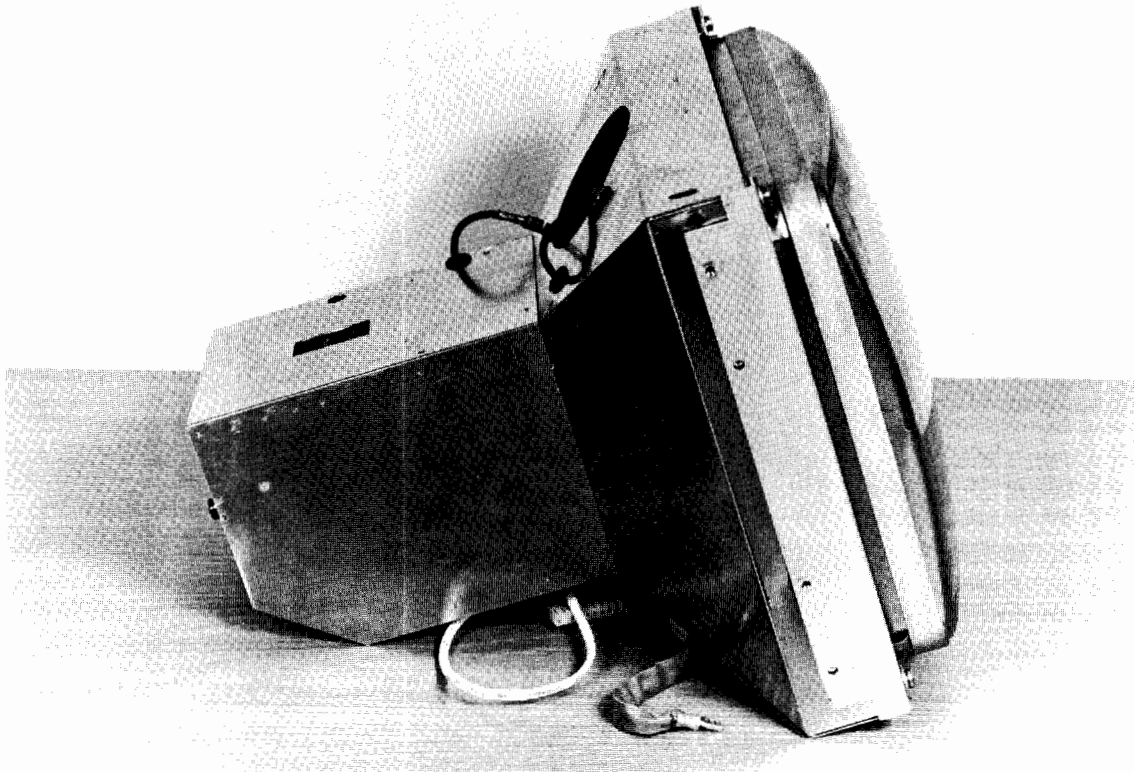

Figure 5-10. CRT Assembly Storage Position
5. When the CRT assembly is removed from the display chassis, place it down on its shield as shown in Figure 5-10.